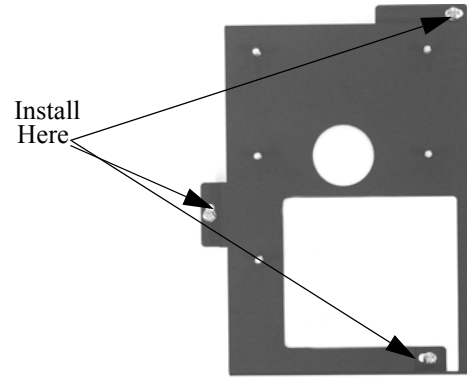

Figure 1. Install First Two Screws
3. Install three M4 X 8mm screws and flat washers into the threaded inserts of the projector (see Figure 1).